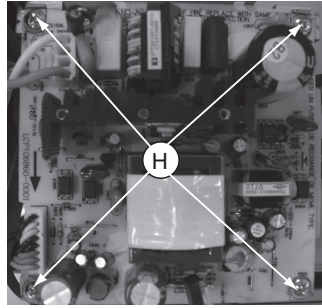

Figure 8
- 2) Loosen 4 screws "H" on the top of power Board as shown in figure 8